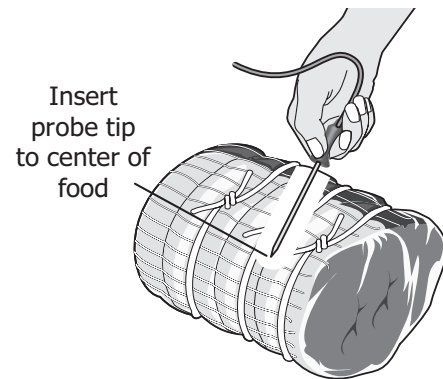

Figure 15: Probe in thickest area of food
2. Plug the connector end of the probe all the way into the probe receptacle while the oven is still cool. The receptacle is located on the upper left front oven cavity wall (See Figure 15).